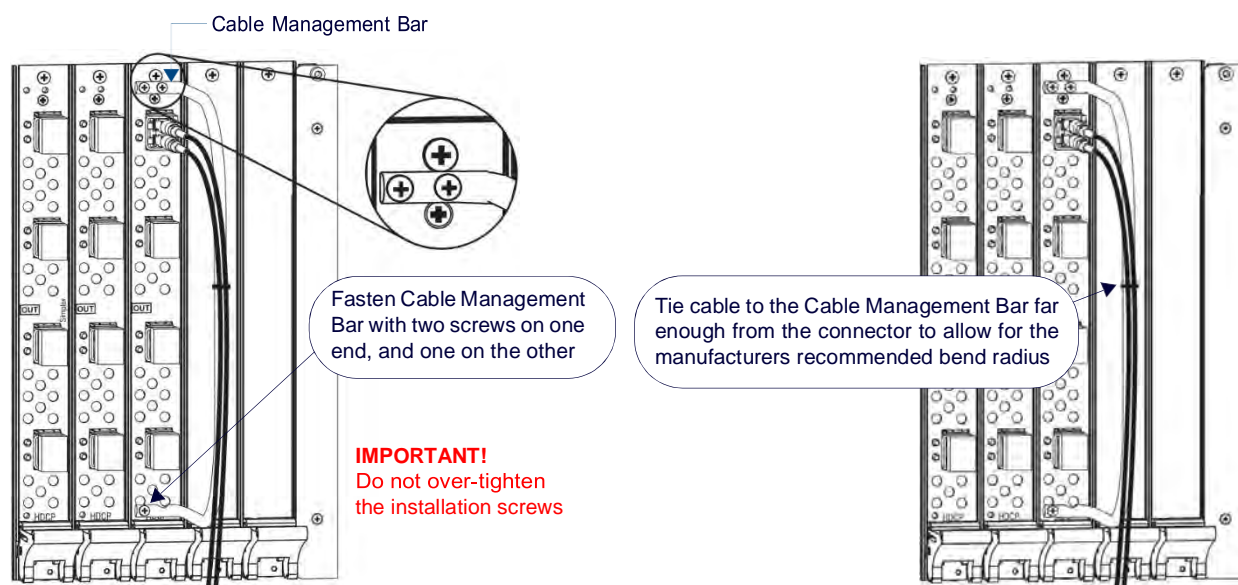
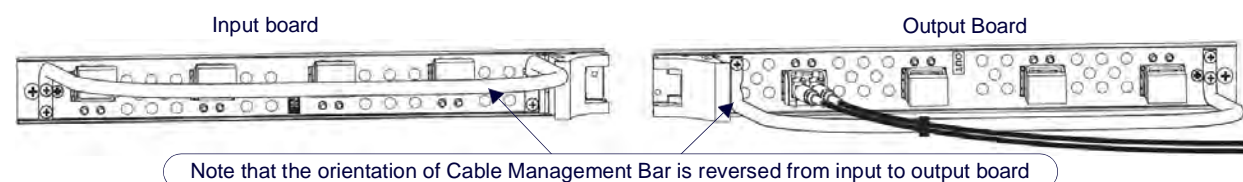

FIG. 18 Cable Management Bars - Enova DGX 3200
FIG. 19 Cable Management Bars - Enova DGX 800/1600/6400
2. Align the two screw holes on the end of the Cable Management Bar with the two screw holes on the end of the board. Note the position of the long part of the bar in relation to screw holes (FIG. 18, FIG. 19):